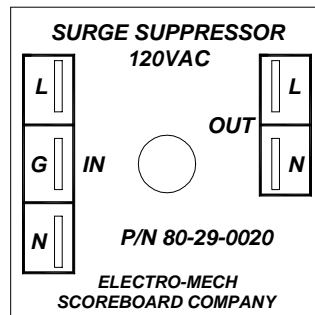

Figure 10 Surge Suppressor Terminals
6. Plug the ¼" quick disconnects on the ¼" tabs on the top of the unit. The black wires should be connected to the ¼" tabs labeled L. The white wires should be connected to the ¼" tabs labeled N. The green wire should be connected to the ¼" tab labeled G. Figure 10 shows the top view of the Surge Suppressor.